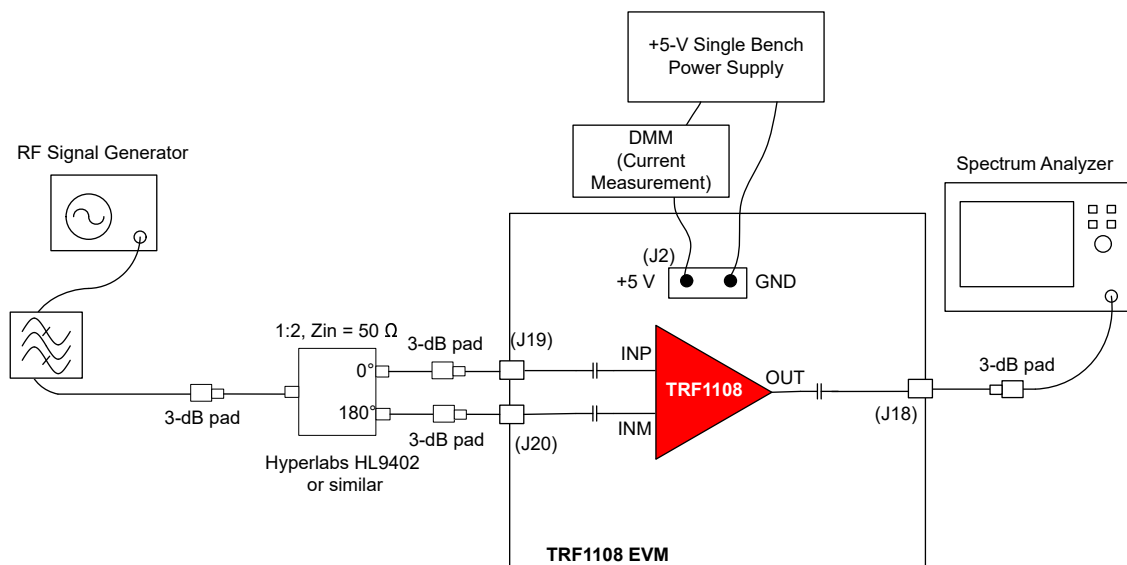

Figure 2-1. Single Tone Setup for Gain and Output P1dB
- a. The EVM inputs are fully differential (or 180° out-of-phase) at J19 and J20 SMA connectors. The single-ended signal out of the RF signal generator must be converted to a differential signal using an external passive balun and connected to inputs SMA connectors J19, J20 as shown in Figure 2-1. When measuring single tone distortion, use an RF band pass filter as shown in Figure 2-1.